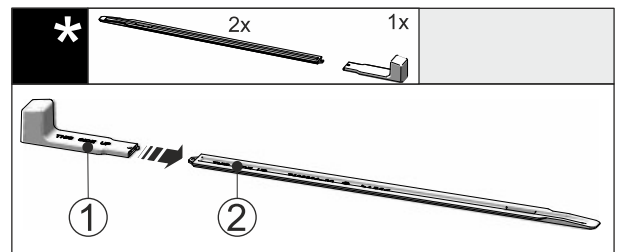

Fig. 54
- Attach the installation handle Fig. 54 (1) to the levelling rail Fig. 54 (2).